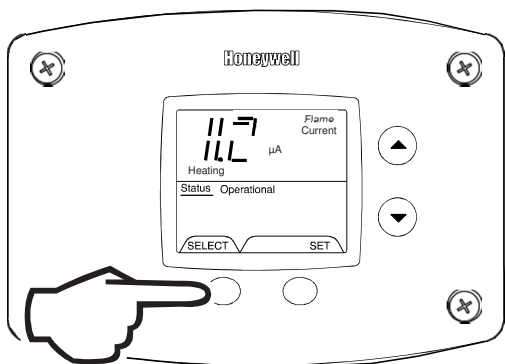

Fig. 47
3. Press the 'Select' button until a number value is displayed with 'Flame Current' to the right of the number. The value displayed is in microamps (µA). (Fig. 47)